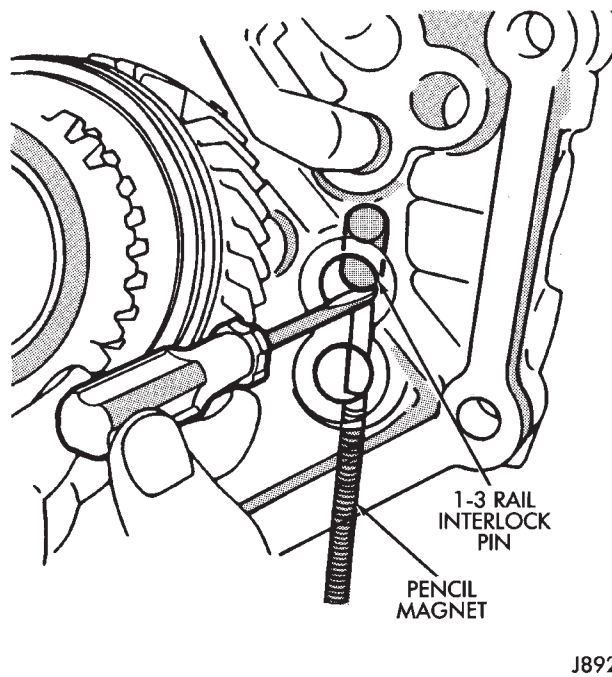

Fig. 81 Installing 1-3 Shift Rail Interlock Pin
(9) Install largest interlock pin between Nos. 1 and 3 shift rails (Fig. 81).